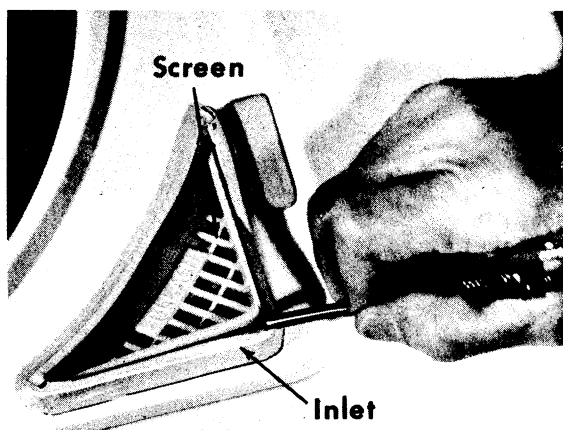

Figure 4 — Removing Dispenser Screen
1. Remove dispenser insert if applicable. Locate a small screwdriver between insert screen and inlet funnel at front outer corner. Then, pry insert up out of funnel and press it down out of opening. See *Figure 4* and *5*